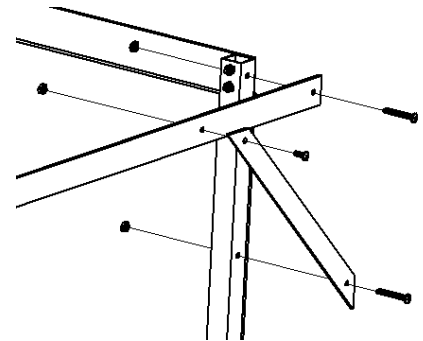

Figure 3 Arbor Assembly @ Corner
- A. Connect the two Screen Assemblies by attaching each end of the 44" Front Beam (#4) to the top outside hole on two Posts (#3) using one 1-1/2" L. Screw (#6), and one KEP Nut (#9). (Figure 3 Arbor Assembly @ Corner)